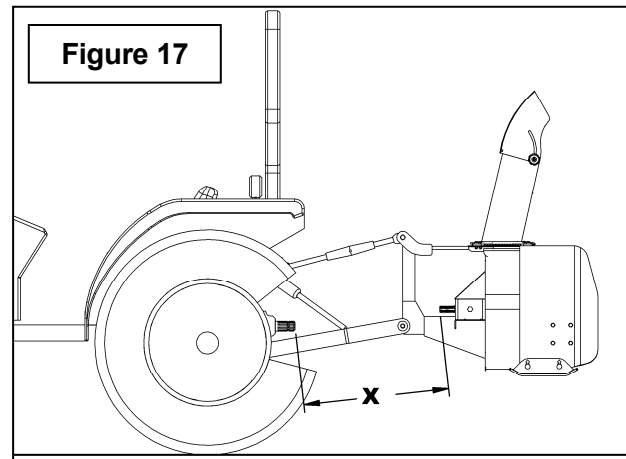

Figure 17
1. To determine the "L" length for your tractor model first find the "X" factor (figure 17) by measuring the horizontal distance between the end of the tractor's drive shaft and the end of the snowblower's driven shaft when the snowblower is in transport position as shown on figure.
2. Choose in the table below the "Y" factor according to the tractor category and deduct that number from "X" (figure 17) to determine "L" (figure 18) which is the center-to-center length between the universal joints.